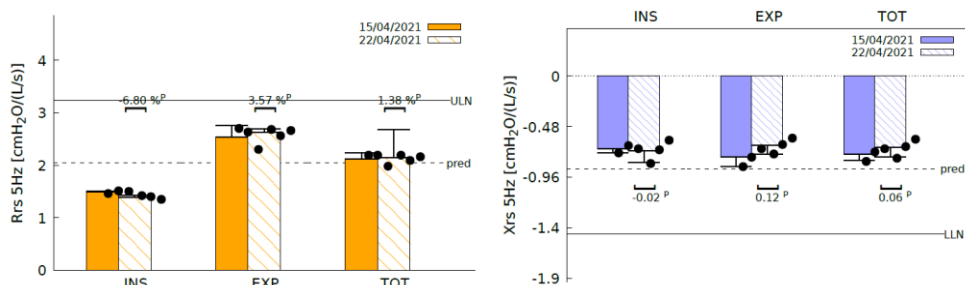
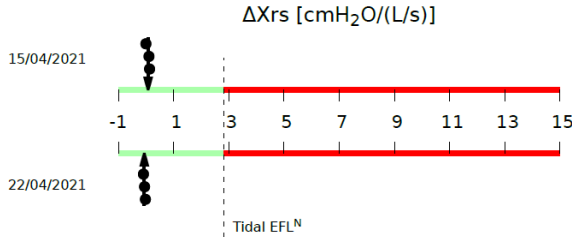
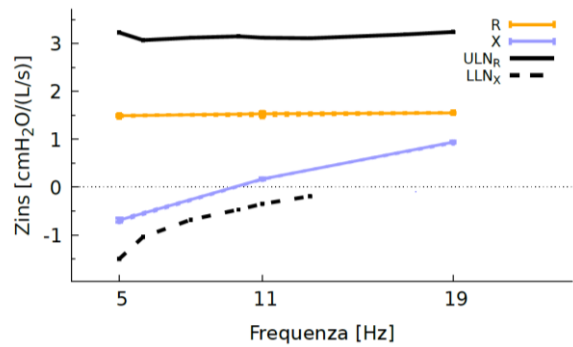

Figure 74 - Bars for resistance and reactance
Figure 75 - Expiratory Flow Limitation (EFL) during tidal breathing
Figure 76 - Inspiratory resistance and reactance spectra
Refer to Figure 74.
- Bars on the left chart of Figure 74 represent the mean and standard deviation of inspiratory (INSP), expiratory (EXP) and total (TOT) resistance calculated from the selected single measurements within a measurement session (see section *Performing a measurement session*).
- If you used a 5 Hz stimulating waveform, an additional graph on the bottom of the page is displayed (Figure 75). This graph shows as an arrow the mean and standard deviation of ΔXrs calculated over all the measurements of the session. Black dots represent the mean ΔXrs of individual measurements results. ΔXrs is the difference between the mean inspiratory and the mean expiratory reactance and it is an index of expiratory flow limitation (EFL) during tidal breathing (*Dellacà et al., ERJ, 2004*). A threshold of 2.81 cmH2O/(L/s) is used to classify a patient as flow limited or non-flow limited during tidal breathing (*Dellacà et al., ERJ, 2004*). If such
In addition to the charts reported when a single frequency stimulating waveform is used (Figure 74 and Figure 75) where data are the resistance and reactance at 5Hz), a new chart with values of resistance (orange solid line) and inspiratory reactance (blue solid line) at the frequencies of the stimulating waveform is reported at the bottom of the page (Figure 76). Shown values may refer to the inspiration, expiration or whole breath depending by your selection on the results screen before the exportation (see also section *Performing a new measurement session*). The default setting is inspiration. Results from the single measurements are reported as dashed lines. Error bars at each stimulating frequency represent the standard deviation of the selected single measurements. Black lines represent the upper limit of normality for the resistance, and the lower limit of normality for the reactance, based on the selected reference equations (for further information see the previous section).